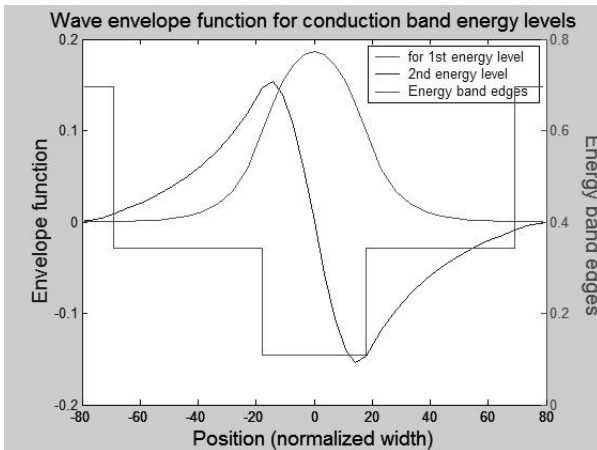
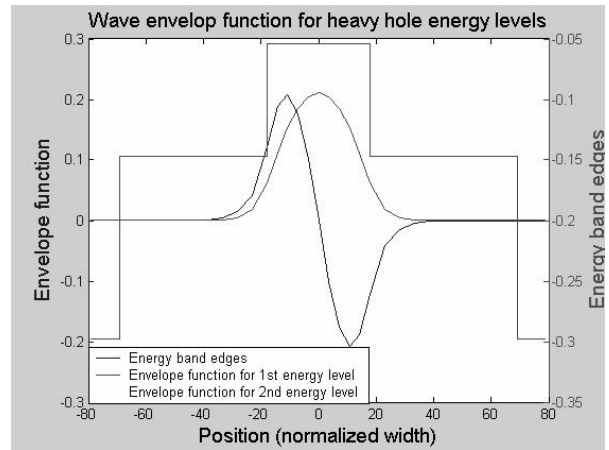

Fig. C.12.2. Wave envelope functions for energy levels in conduction band
Fig. C.12.3. Wave envelope functions for heavy hole energy levels
b) The main output file from this part of GAIN program is energy.dat, containing all the energy levels as shown in Table C.12.5. After the energy eigen values are calculated, the GAIN program asks the user whether he would like to check the wave envelope function or not. We suggest that the user check the wave envelope functions of the first and second energy levels for conduction and valence bands. The plots of the envelope functions are shown in Fig. C.12.2, Fig. C.12.3, Fig C.12.4.